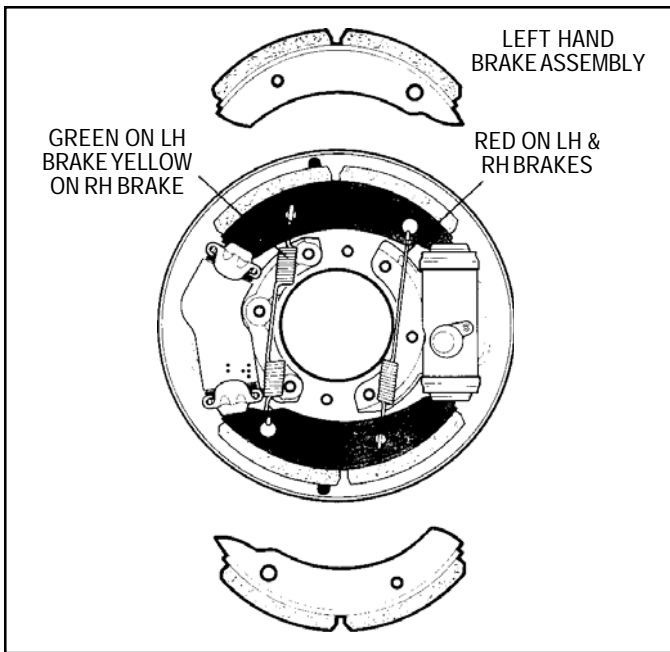

FIGURE 24 - POSITION OF BRAKE SHOE RETURN SPRINGS
1. Lightly smear the abutment ends of the brake shoes and steady posts with high temperature grease. Keep the grease away from all hydraulic components and the shoe linings. Refer to *Figure 24* for correct position of the replacement brake shoes and shoe return springs.